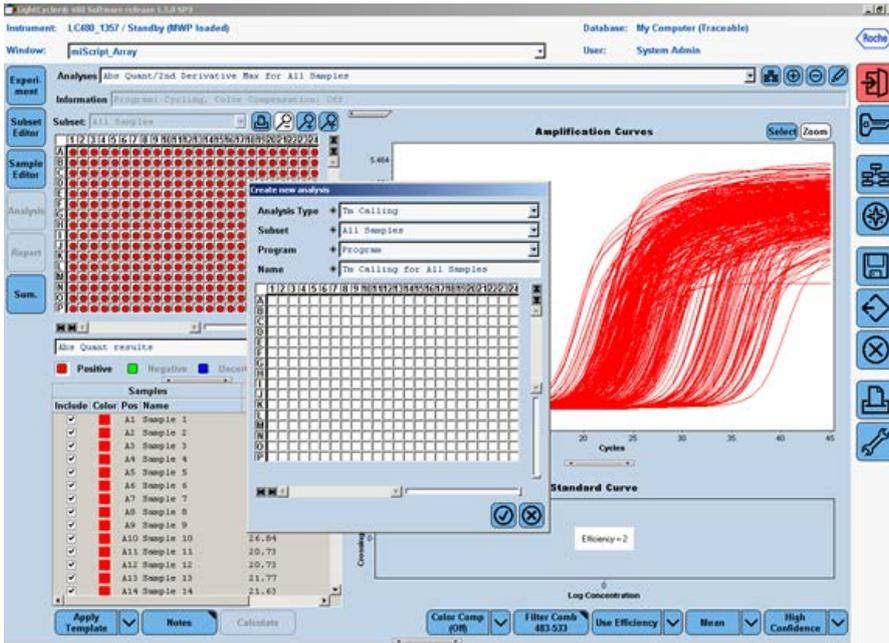

Figure 11. Setting up the melt curve analysis.
23. To proceed with the melt curve analysis, click the  button located on the right of the “Analyses” line at the top of the window. The “Create New Analysis” dialog box will open (Figure 11). Select the “T_m calling” for the “Analysis Type.” Then click  to confirm the selection.